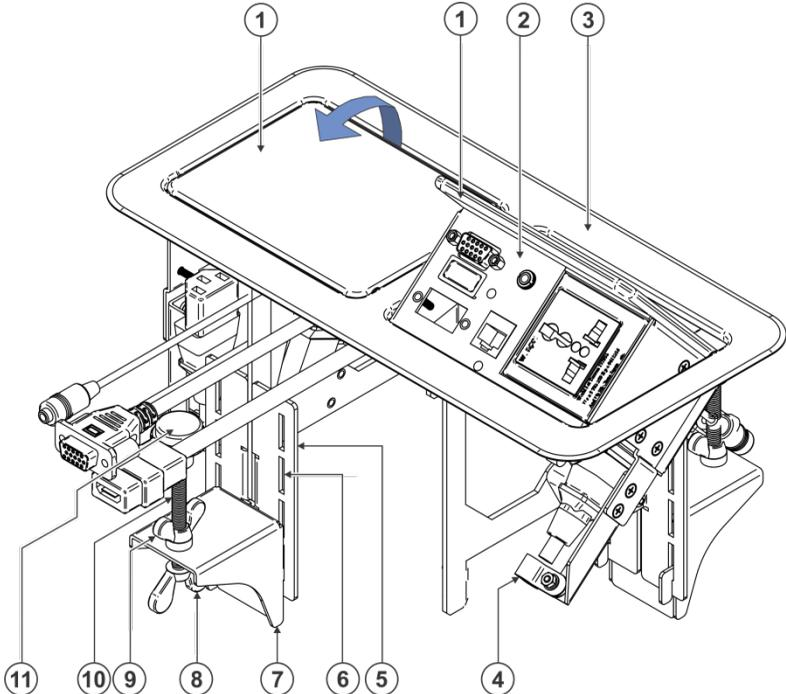
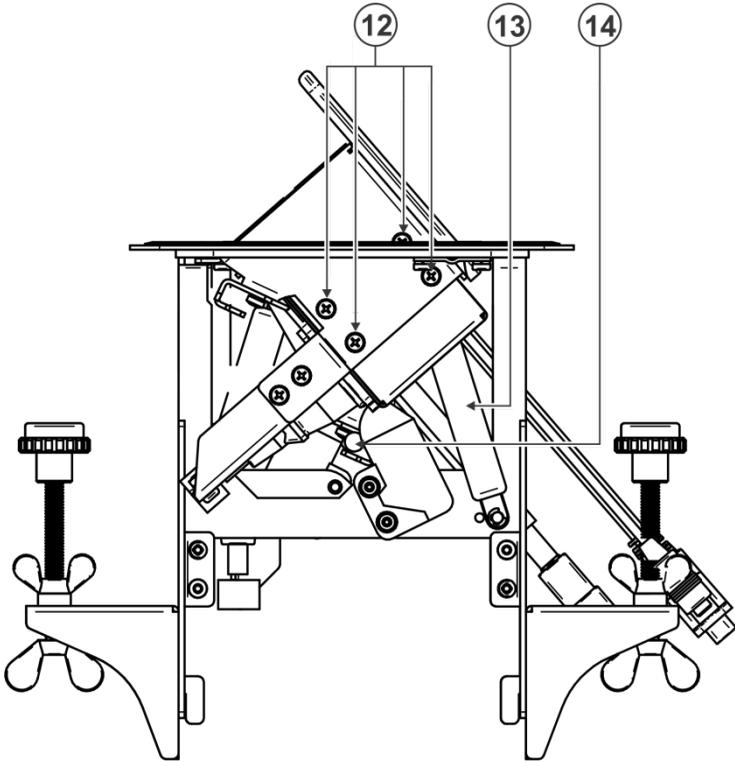

Figure 2: Defining the Parts of the TBUS-202xl Dual Pop-up Table Connection Bus
Figure 3: TBUS-202xl Dual Pop-up Table Connection Bus Side View
Figure 2 and Figure 3 define the **TBUS-202xl**.
Note that both pop-up units are identical so Figure 2 and Figure 3, as well as the following tables apply to each one of them separately.
6. Insert the power cord into the power connector lock and tighten the screw (see Figure 2, item 12) to secure the power cable.